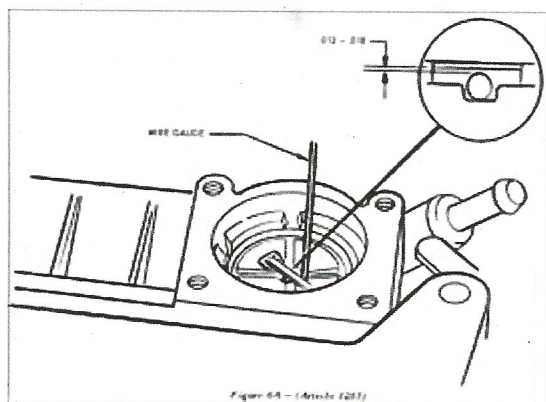
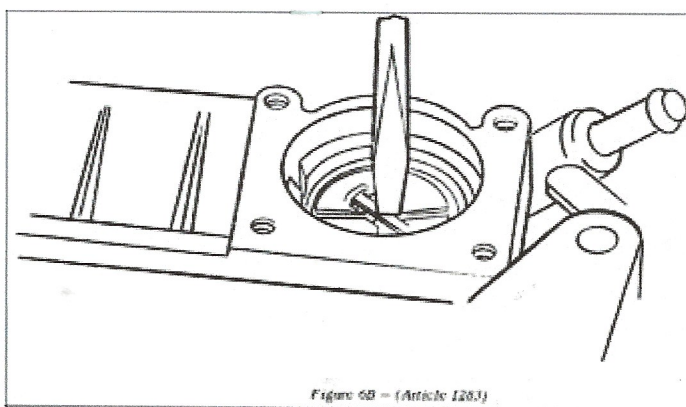

Fig. 6A
Fig. 6B
2. Accelerator Pump Check Valve — Remove the accelerator pump cover and diaphragm to measure the clearance as shown in Fig. 6A between the check ball and its retainer. This clearance dimension must be between 0.012 - 0.018 inches. Check this clearance with a wire gauge within this dimension range which is bent at a 90° angle 1/8 inch from the end. Adjust the clearance as necessary by relocating the retainer with a screwdriver. (Fig. 6B.) Reinstall the accelerator pump diaphragm and cover upon completion.